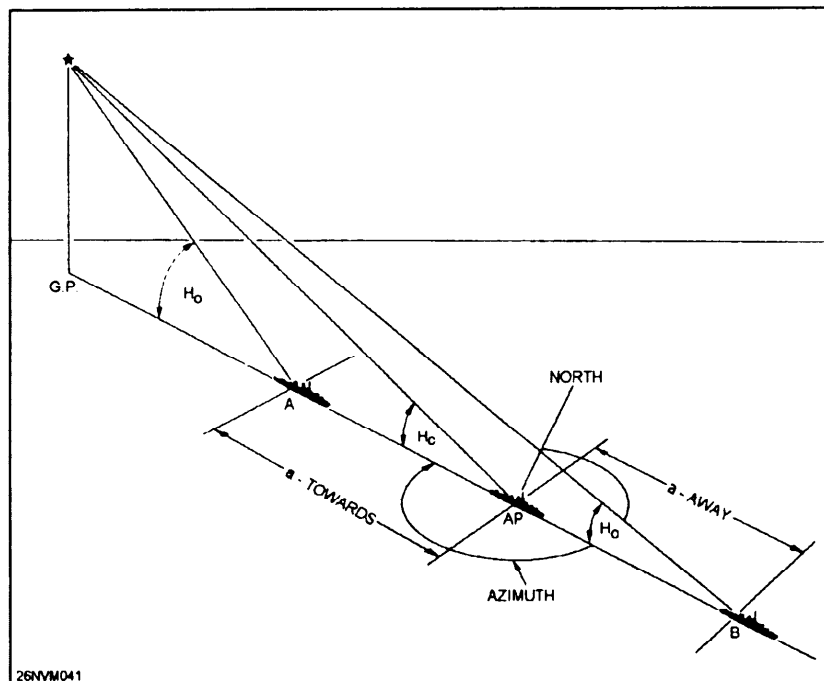

Figure 9-8. Determining a LOP.
Figure 9-8 illustrates the method used in establishing a single LOP by observing a star. An assumed position (AP) is selected according to certain requirements of convenience in calculating (described later). Observation of a star provides sextant altitude ( $h_s$ ). Sextant altitude is then corrected to obtain observed altitude ( $H_o$ ). The star's altitude from the assumed position, called the computed altitude ( $H_c$ ), and its azimuth angle are determined from tables by a procedure you will soon learn. The azimuth angle is then converted to azimuth. After selecting an AP, draw the azimuth through the AP. Along the azimuth, measure off the altitude intercept (difference between the observed altitude and the computed altitude). At the end of this measurement, draw a perpendicular line, which is the LOP. You must know whether altitude intercept ( $a$ ) should be measured from AP toward the body or from AP measured away from the body. It is helpful to remember the initials  $H_o$  MO  $T_o$ , if  $H_o$  is more toward. This means that if  $H_o$  is greater than  $H_c$  measure altitude intercept ( $a$ ) from AP toward the body. If  $H_c$  is greater than  $H_o$  measure altitude intercept ( $b$ ) from AP away from the body.